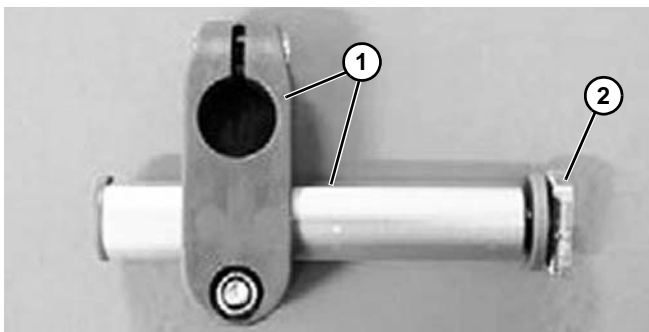

Figure 79
- Fasten an adjustable guide rail bracket support (**Figure 79, item 1**) to the conveyor beam using T-bolt (**Figure 79, item 2**).